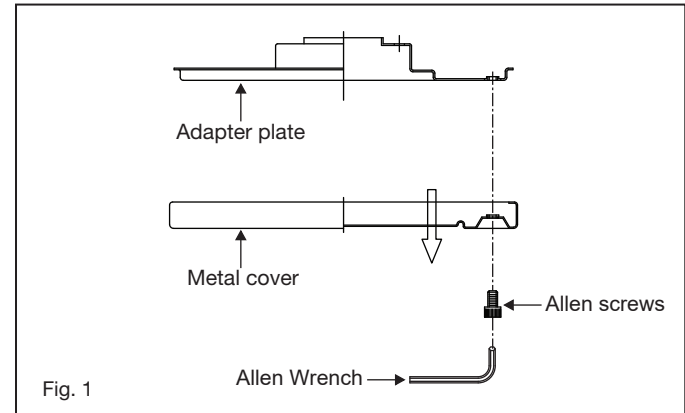

Fig. 1
- 1 Remove six Allen screws located in the metal plate assembly by using the hex wrench provided. Take out the metal cover from adapter plate. (Fig. 1)
- 1 Select a desired location. Use the wall plate to mark the location of the mounting holes. Plastic wall anchors or mounting screws are needed for this application. (Fig. 1)